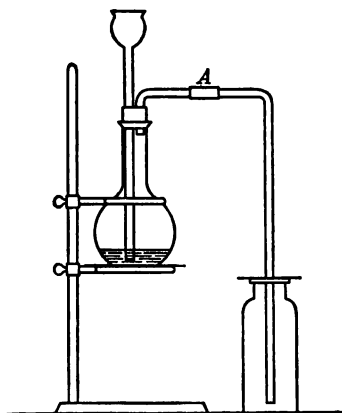

FIG. 42
— **94. Sulfur dioxide.** Place about 10 g. of copper turnings or small pieces of sheet copper in a generator arranged as in Fig. 42 (hood). Add about 25 cc. of concentrated sulfuric acid and apply a gentle heat. As soon as the action begins (R), lower the flame, regulating it so as to obtain a uniform evolution of the gas. Collect two bottles of the gas by downward displacement; then cause it to bubble through 25 cc. of water as long as any is dissolved. Do not allow the delivery tube to remain in the solution after the gas ceases to flow, or the solution will run back into the flask (why?). By what other method has this gas been prepared in a previous exercise? Invert one of the bottles of the gas so that the mouth of it is under water, and examine the contents after several minutes. In the second bottle place some moist paper containing writing